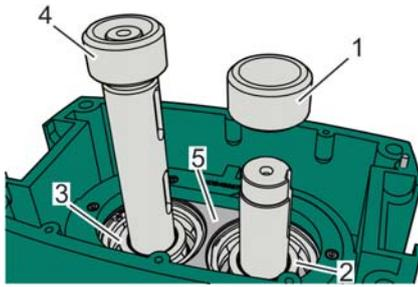

Fig. 100: Lifting the distance rings off the ball bearings, example
15. ➔ Lift the distance rings (Fig. 100/1, 4) off the inner rings of the ball bearings (Fig. 100/2, 3) of the upper bearing housing (Fig. 100/5) and place to the side.